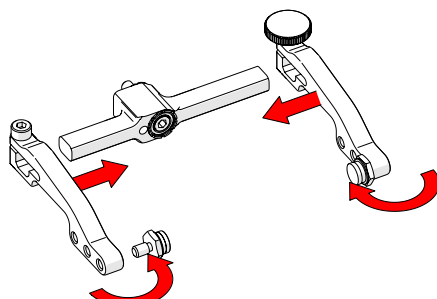

Fig. 145 - Attach arms & move buttons
5. Place the pivot buttons on the inside of the probe holder arms (Fig. 145) using a 3/8 in wrench (Fig. 45).